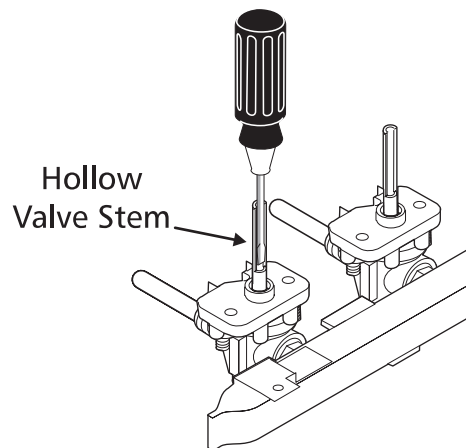

Figure 16
5. Adjust the "LO" or "SIMMER" Setting of Surface Burner Valves (see Figure 16)